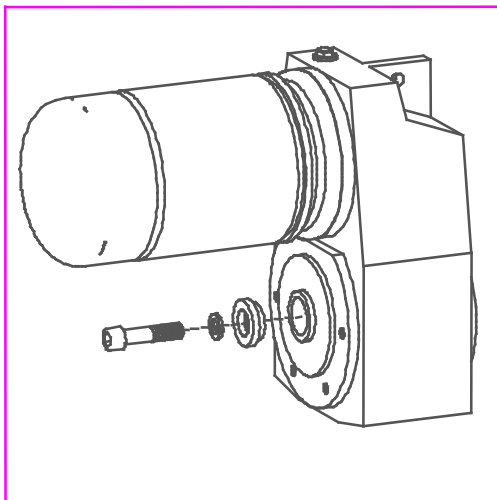

Figure 2.4b - Fastening the Motor
6. Fasten the locking bolt, spring washer and stepped spacer to the drive shaft in order to fasten this in the gearboxes drive bore (see Fig 2.4b). When the drive shaft is firmly positioned in the drive bore the locking bolt should be tightened to the torque specified (refer Sect. 2.1).